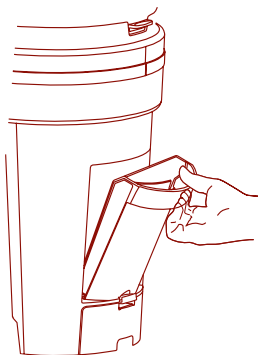

Figure 9
9. To remove the Ice Melt Reservoir hold the unit still and pull straight out on the handle (Figure 9).